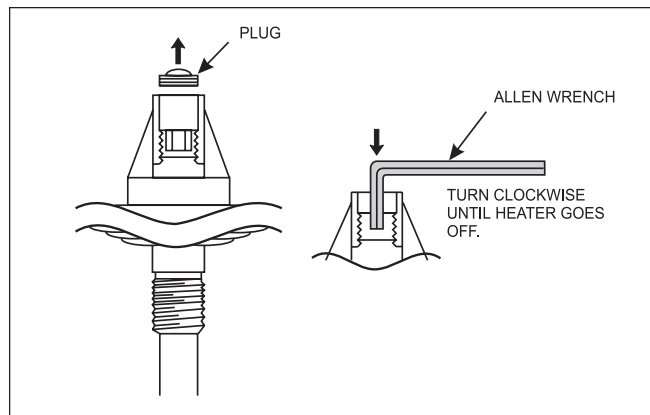

Figure 18. Pressure switch adjustment.
6. Use a 7/32 inch (5.55 mm) Allen wrench to turn the adjustment screw very slowly clockwise until the heater goes off (see Figure 18).